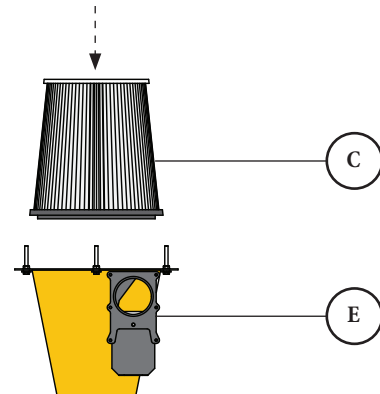

FIG. 15
Place the Filter (C) on top of the Cyclone (E) with the open side facing down [FIG. 15].